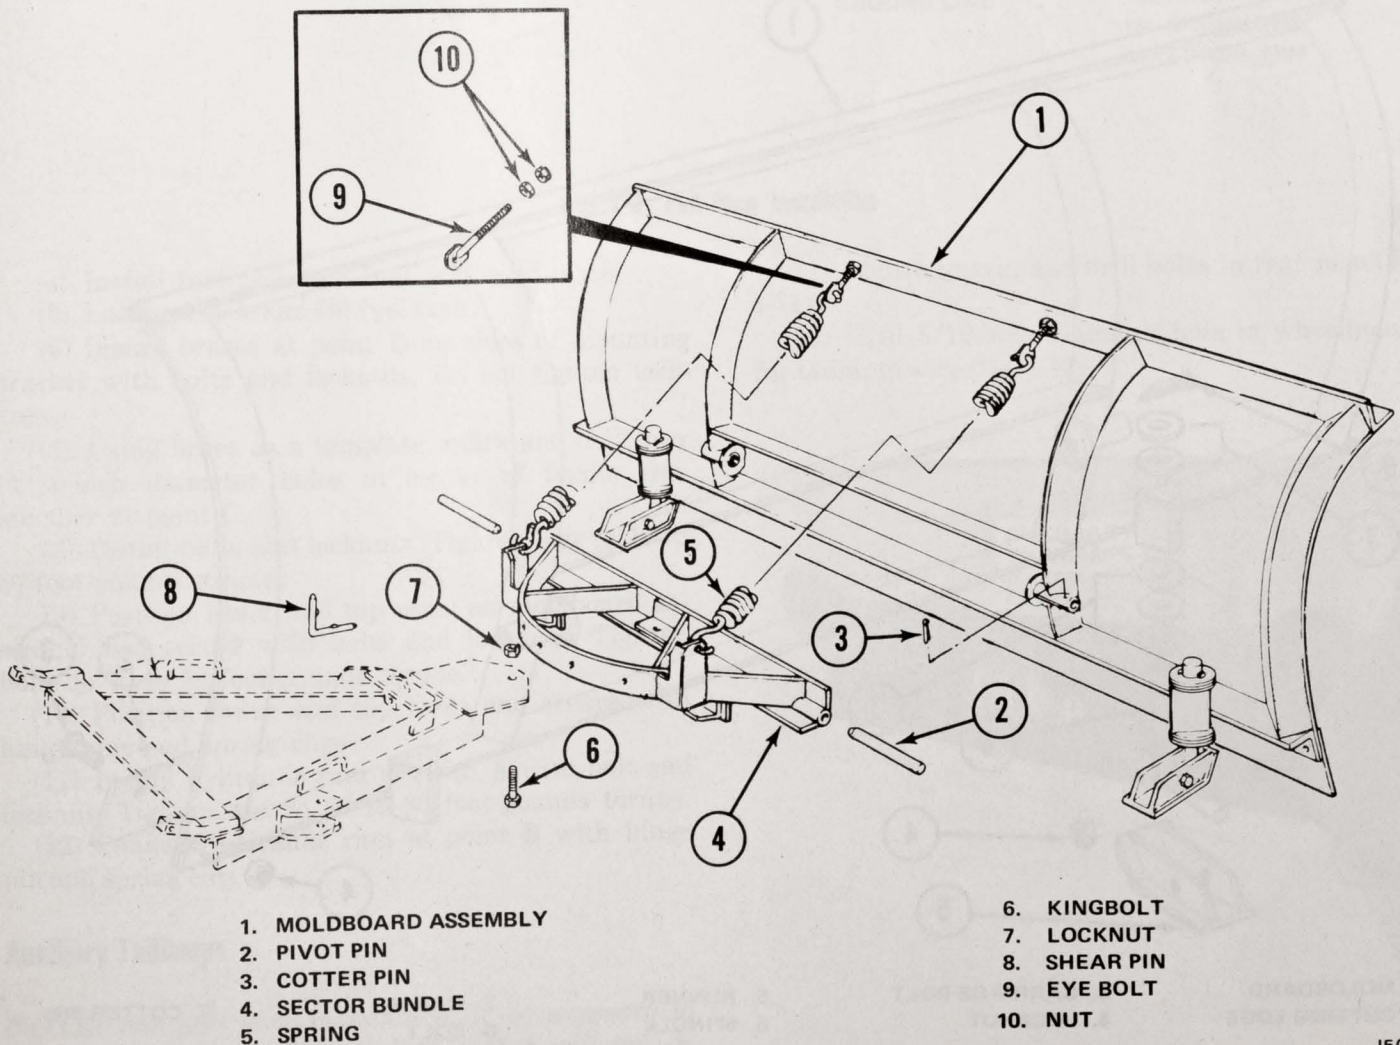

Fig. 1-6 Moldboard and Sector Bundle - Components and Installation
- (1) Attach sector bundle to moldboard assembly with pivot pins and cotter pins (fig. 1-6).